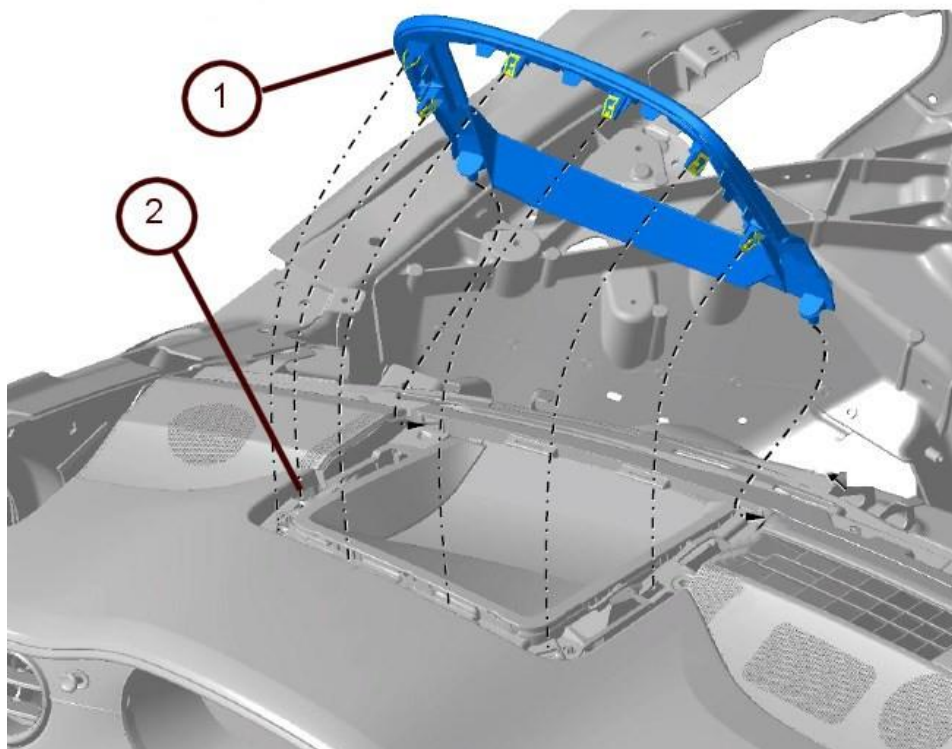

Figure 1
- Relative movement between Control Unit for Head-Up Display and associated Trim Ring – figure 1.